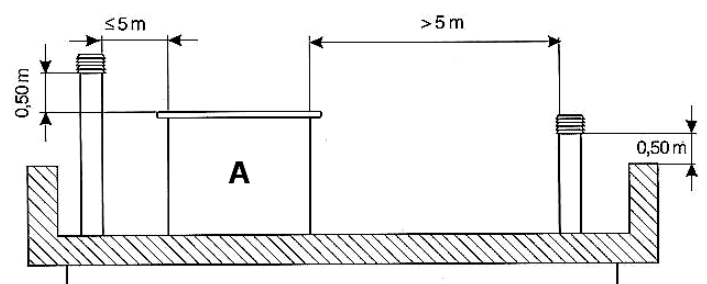

fig. 4: Correct position for flat roof
- For a flat roof: the minimum chimney height above any obstruction like walls or another chimney is 0.5m (Fig. 4)